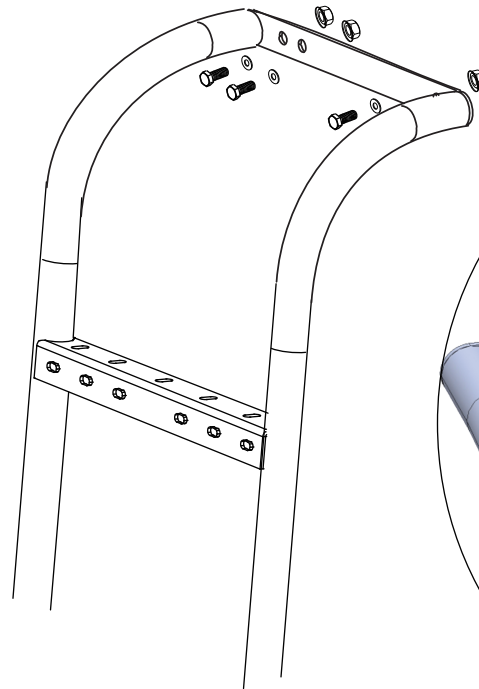

FIGURE 3
6. NEXT, INSTALL THE LADDER FIRST AT THE TOP USING THE 3 M8-25MM BUTTON HEAD SCREWS LEAVING THEM LOOSE (SEE FIGURE 3)